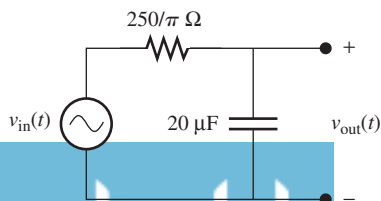

FIGURE P7.11 Circuit for Problem 7.11.
7.11 (A) Find the output, $v_{out}(t)$, of the filter in Figure P7.11, given: